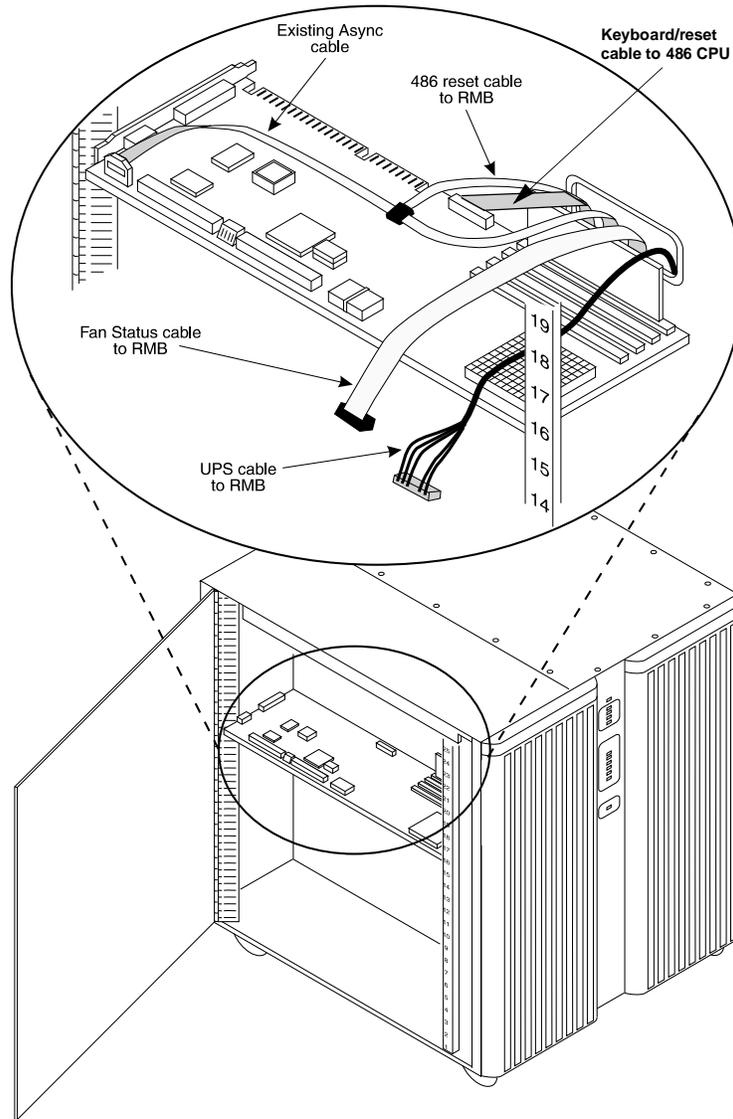

Figure 4-6. 486 Card Installed with Cabling Attached
17. Insert the CPU part way into slot #16 and attach the keyboard/reset cable. Complete the insertion, attach the communications port cable with the tracer wire oriented away from the faceplate. Secure the card with a screw through the faceplate. See Figure 4-6.